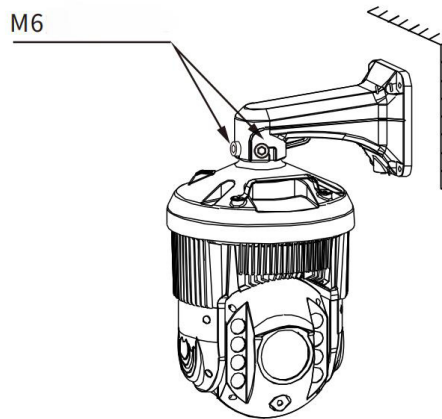

Figure 1-3-5
(6) There are M6 hexagonal socket screws at the connector of the dome machine. Use these two M6 hexagon socket screws to hang them into the two notches of the wall mounting bracket, and then tighten the two hexagon socket screws. Finally, tighten the M6 hexagon socket screw already installed on the bracket. Wall-mounted installation completed. (As shown in Figure 1-3-5)